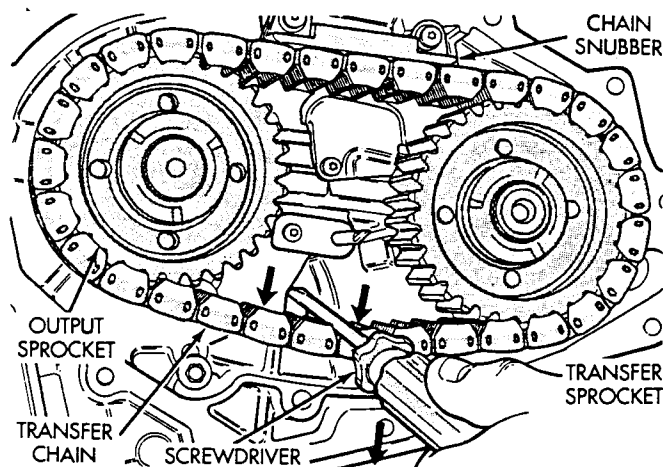
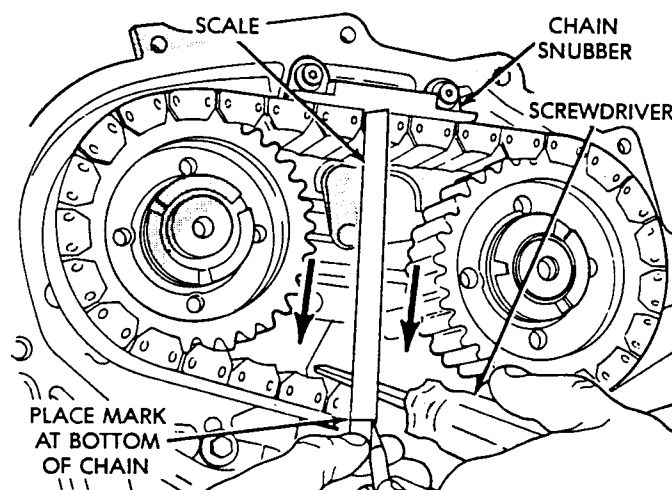

Fig. 1 Screwdriver Placement
Fig. 2 Chain Measurement
- (1) Insert a screwdriver into the 18 mm hole with the screwdriver **ABOVE** the chain (Fig. 1).
- (2) Pry the chain down at the center of the chain.
- (3) Butt a scale against the snubber and mark the scale at the bottom of the chain (Fig. 2).